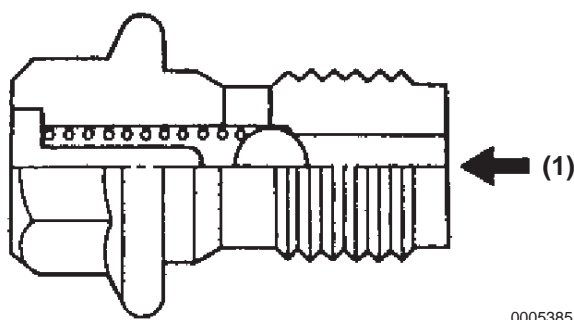

Figure 8-33
3. Inspect the check valve by pressing **(Figure 8-33, (1))** the valve with a wooden stick and check the valve for sticking. If the valve sticks, replace the check valve.